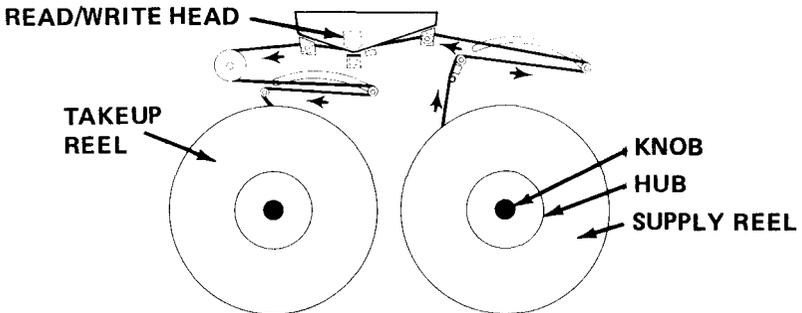

Figure 2. TAPE THREADING DIAGRAM (1600 bpi)
2. Thread the tape as shown in Figure 2. While threading, it will help to keep tension off the leader by manually unwinding (clockwise) the righthand reel as the tape is pulled through the threading path.